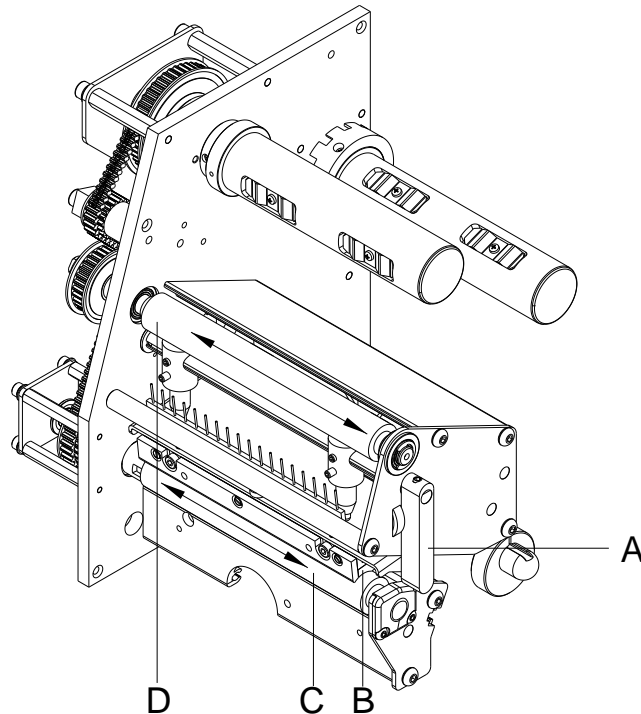

Figure 2
2. Turn the lever (A, Figure 2) counter clockwise to lift up the printhead (B, Figure 2).
5. Turn the roller (D, Figure 2) manually step by step to clean the complete roller (only possible when the printer is switched off, as otherwise the step motor is full of power and the roller is kept in its position).
7. To move the printhead (B, Figure 2) down, turn the pressure lever (A, Figure 2) in clockwise direction until it locks.
2. Turn the lever (A, in Figure 2) counter clockwise to lift up the printhead.
7. To move the printhead down, turn the pressure lever (A, Figure 2) in clockwise direction until it locks.